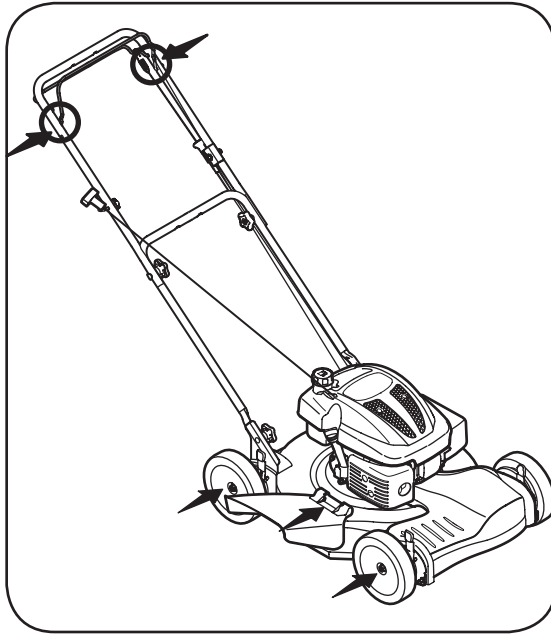

Figure 5-1
1. Lubricate pivot points on the blade control and drive control at least once a season with light oil. These controls must operate freely in both directions. See Figure 5-1.
2. Lubricate the wheels at least once a season with light oil (or motor oil). If wheels are removed for any reason, lubricate surface of the pivot arm and inner surface of the wheel with light oil. See Figure 5-1.
3. Lubricate the torsion spring and pivot point on each end of the side mulching plug/ chute deflector periodically with light oil to prevent rust. See Figure 5-1.